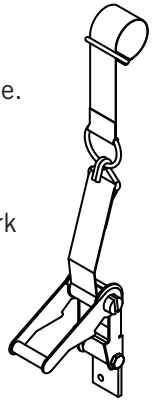

Figure 52
1) Figures 52 & 54. 2"-4" from front edge of tarp cut slit in tarp and wrap strap around the roll pipe.
2) Figure 52. Release ratchet strap completely and hook onto D-ring. Pull down on the ratchet, mark the location, making sure there is enough slack to remove the hook from the D-Ring.